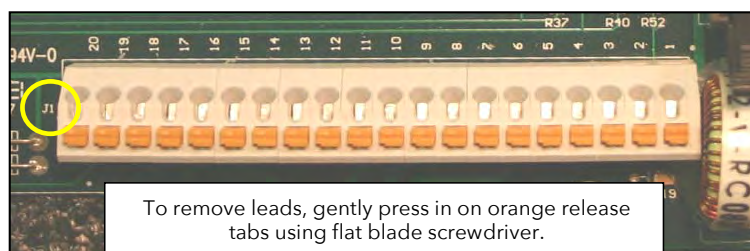

Figure 6. TERMINAL BLOCK J1.
- From circuit board terminal block J1, carefully remove all the leads connected to it. Refer to Figure 6. Use a flat blade screwdriver to gently press in on each orange release tab, then gently remove the corresponding lead. Disconnect all leads from the terminal block.